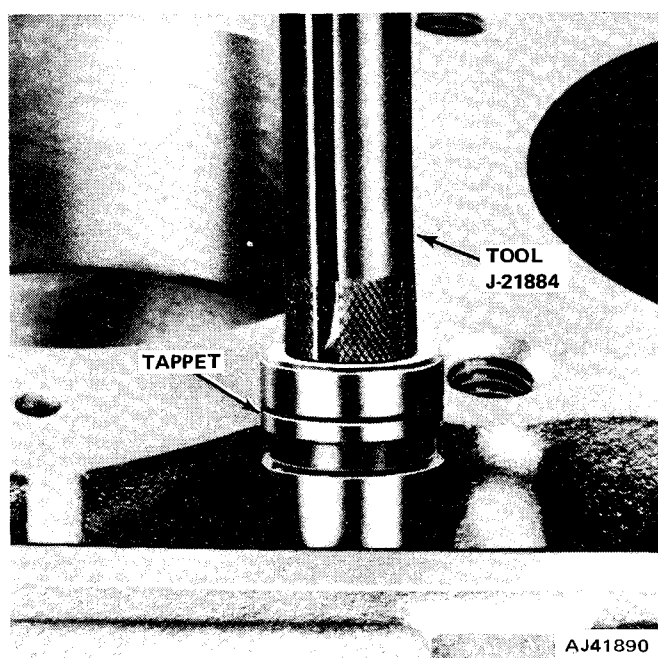

Fig. 1B-18 Hydraulic Tappet Removal
- (4) Remove cylinder head and gasket.
- (5) Remove tappets through push rod openings of block with Hydraulic Valve Tappet Remover and Installer Tool J-21884 (fig. 1B-18).